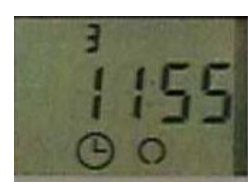

Fig. 3
- The ':' symbol between the hours and minutes display will start to flash, this indicates that the clock is now keeping time (see fig. 3).